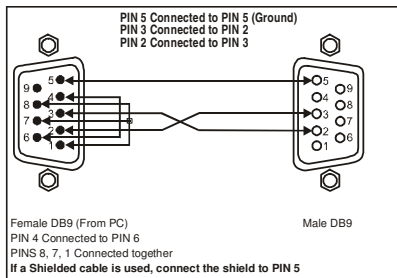

Figure 9: Connecting a PC without using a Null-modem Adapter
- Connect the RS-232 DB9 port on your PC to the RS-232 DB9 rear panel port on the **VP-23N**, as Figure 9 illustrates